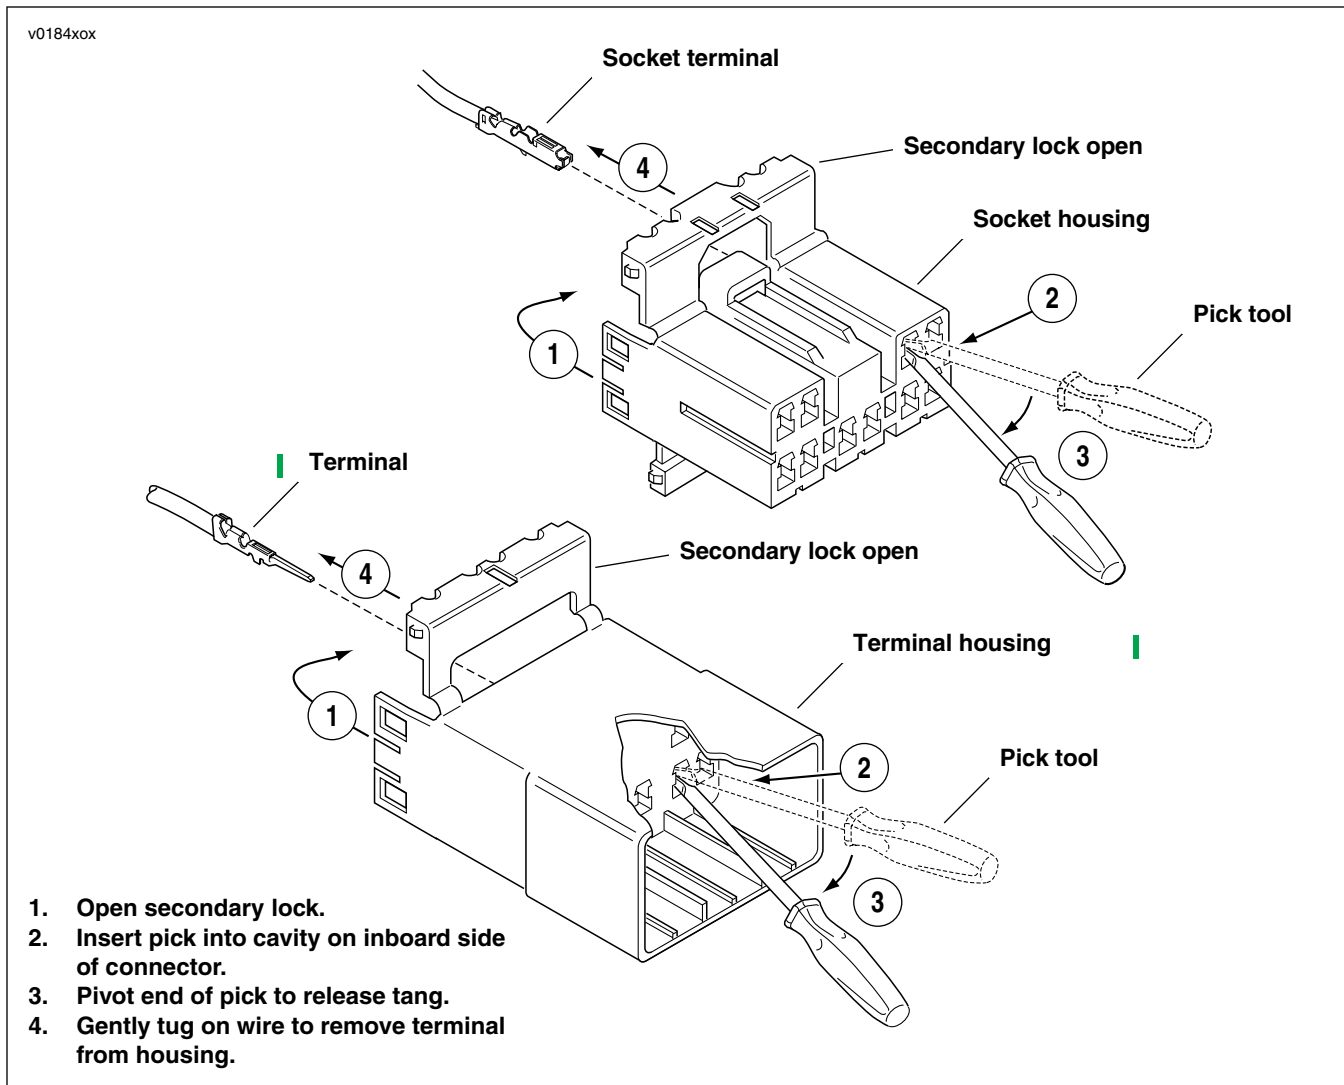

Figure 5-2. Release Tang and Back Out Terminals
5. See Figure 5-2. With the flat edge against the terminal, insert the pick tool (Snap-On TT600-3) into the cavity until it stops. Pivot the end of the pick away from the terminal (locktab is inside housing) and gently tug on wire to pull terminal from chamber. Do not tug on the wire until the tang is released or the terminal will be difficult to remove. A "click" is heard if the tang is engaged but then
For wire location purposes, numbers are stamped into the secondary locks of both the socket and terminal housings. See Figure 5-2.